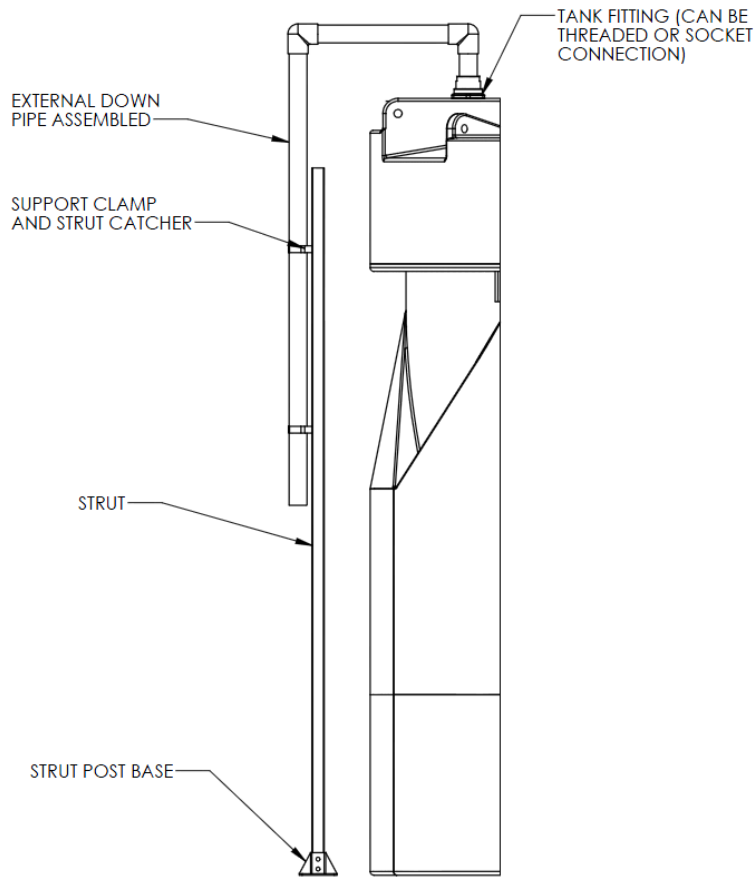

Figure 7.5
7.6.2 Assemble the piping loosely using Figure 7.5, the guidelines detailed below, and the customer approved tank drawing to ensure all parts are present and cut to meet the customer's requirements. Mark the strut post base on the concrete when in proper position. Install 4 ea. 3/8" adhesive anchors (customer supplied) and secure the base into position. As soon as all parts have been checked, assemble the parts with solvent weld cement and/or threaded connections as shown in Figure 7.5.
7.6.3 Assemble and install support structures as shown in Figure 7.5. Make sure the support clamps are spaced evenly. Locate the strut catchers and twist 90° to lock in place. Install the clamps to the strut catchers with the #10 screws provided. Clamps 3 in. and larger require 2 ea. strut catchers, #10 screws and #10 washers. The pipe will click into position in